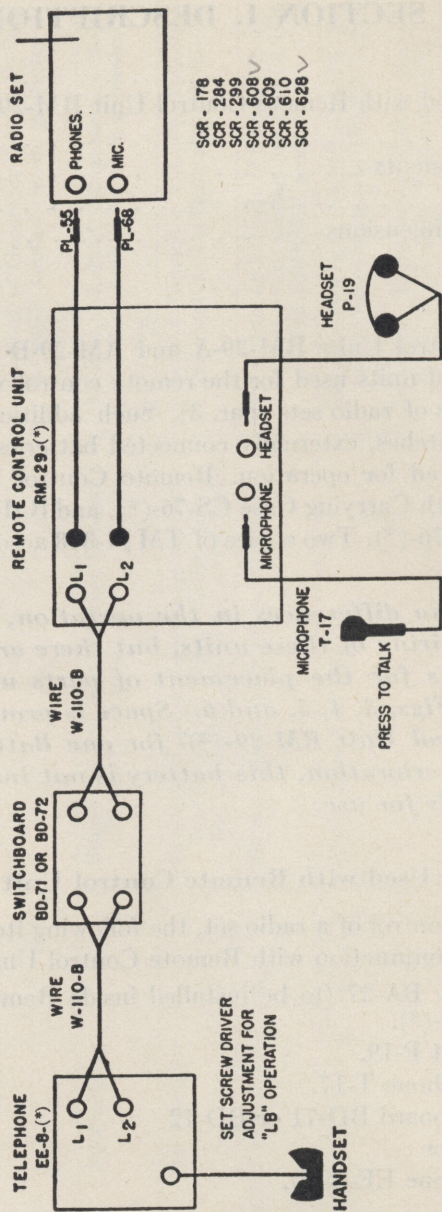

FIGURE 2. REMOTE CONTROL UNIT RM-29-(*)
- c. *Microphone*.—Insert Plug PL-68 of Microphone T-17 and Plug PL-55 of Headset P-19 into the correct jacks marked MICROPHONE and HEADSET on the front panel of the unit. Insert the plugs coming from the panel holes marked RECEIVER and MICROPHONE into the correct jacks of the radio set. These connections are shown in Figure 2.